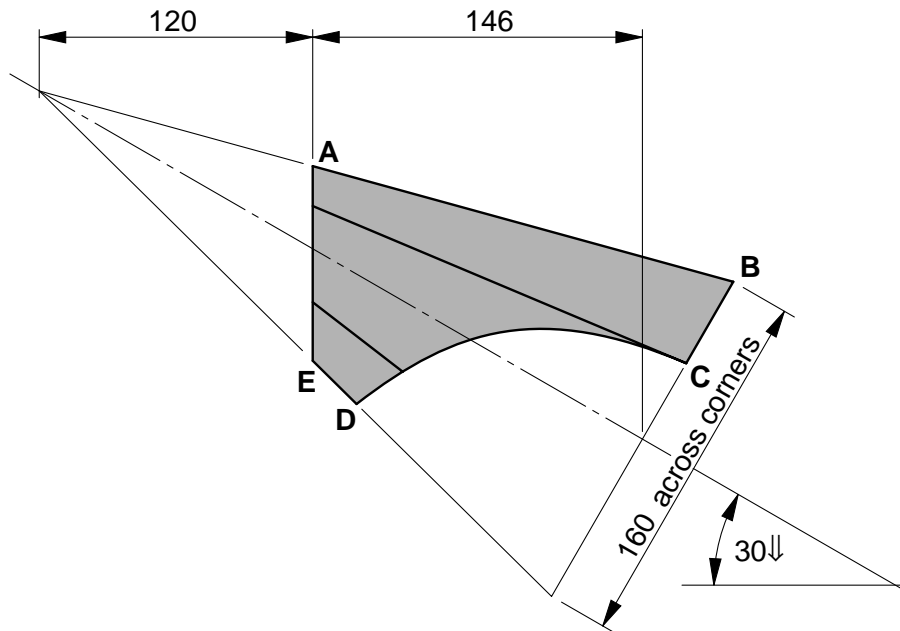

Fig. 4
- 4 A wall-mounted lampshade, made from thin aluminium, is shown in Fig. 4. The lampshade is in the shape of a regular hexagonal pyramid truncated at both ends.